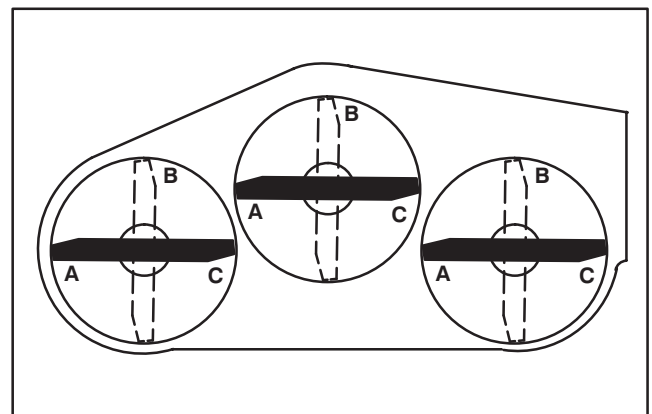
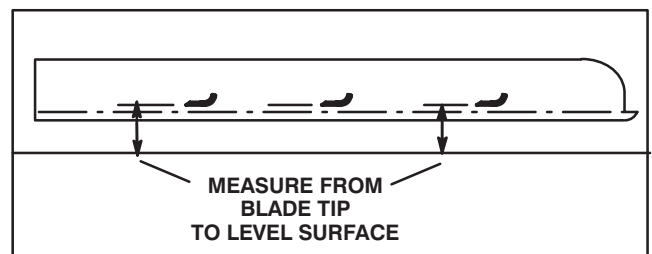

Figure 32
Figure 33
CORRECTING CUTTING UNIT MISMATCH (Fig. 32–33)
5. Position all three blades in the “A” position (Fig. 32) and measure from level surface to the bottom of the tip end of each blade (Fig. 33).
6. Note measurement attained at “A”, rotate blades to “B” position (Fig. 32), measure distance of all blades to level surface and note dimensions (Fig. 33).
7. Rotate blades to “C” position, measure and note distance measured (Fig. 32, 33).